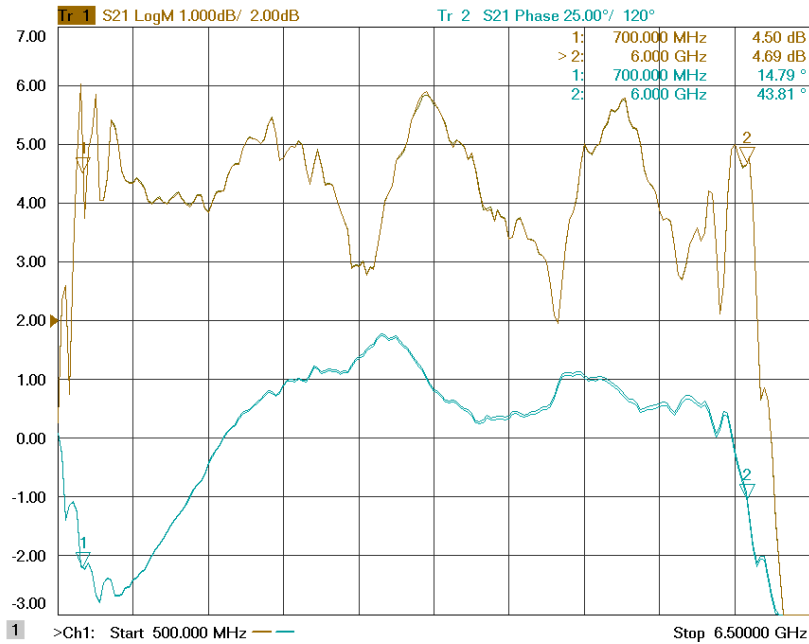

Figure 4-2. Typical Response: Input A3 to Quad Final Module RF Output
- Remove the coaxial cable from the output of the A2 connector to the input of the A3 Two-Way Splitter. The typical Gain and Phase response from the input of the A3 Two-Way Splitter to the RF Output of a Quad Power Module is shown in Figure 4-2. *Note: Make sure to terminate the combiner port that was disconnected to measure the final module. This port should be terminated into a 50Ω load.*